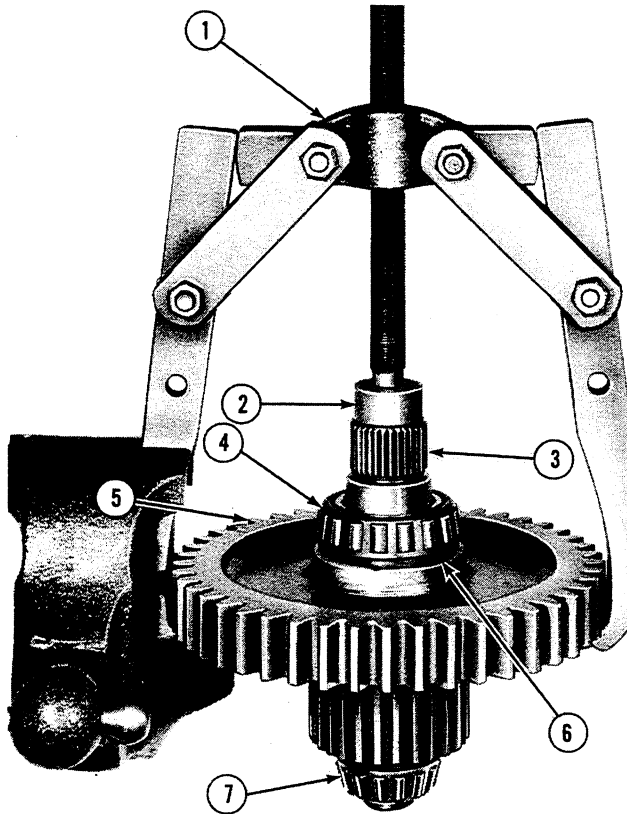
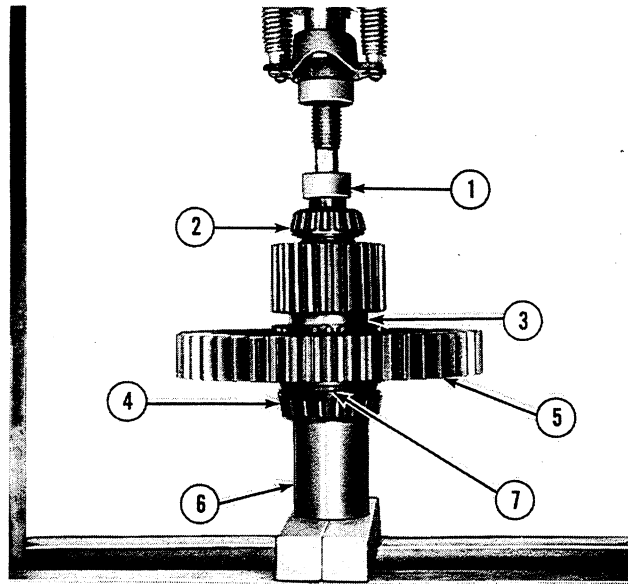

Figure 28
Figure 29
7. Remove the rear bearing (4), Figure 28, from the shaft if necessary. Use Tool Numbers 1003 and 625-1, as shown, to pull the gear, the thrust washer, and the bearing far enough to free the bearing. If the gear is to be removed, continue to pull it off using the same setup as stated above. Install a new rear bearing (4), Figure 29, thrust washer (7), or gear (5) as needed, using Tool Number 625-1 and convenient length sleeve of the proper diameter as shown in Figure 29. Be sure the thrust washer (7) is placed between the gear and the bearing as shown.